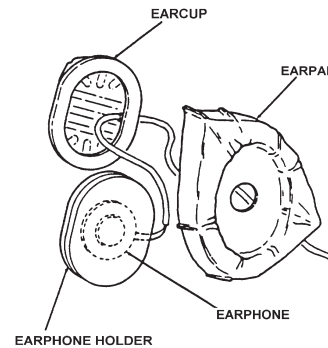

Figure 3-24. Earphone and Holder
- d. Referring to Figure 3-24, remove the earphone holder and the enclosed earphone from the earcup.